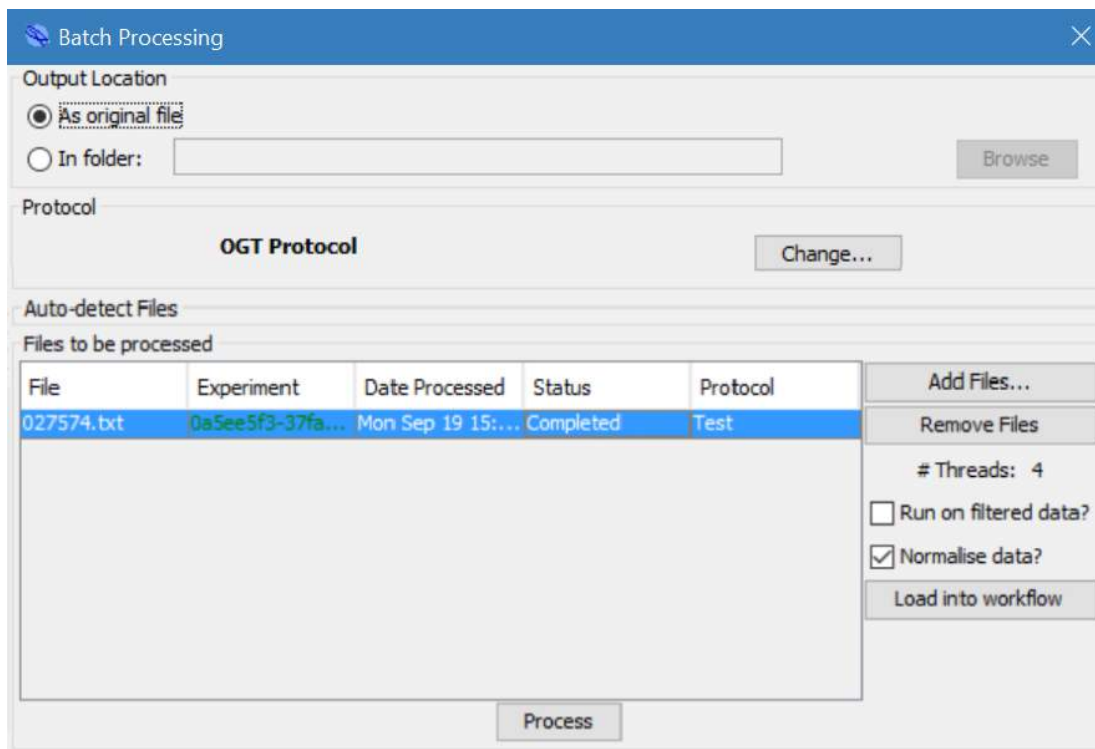

Figure 13: Batch Processing window.
- If batch processing has been carried out, as described in Batch processing, then it is also possible to open the .cgh files from the Batch Processing window (Figure 13). When completed, the files in the **Files to be processed** window will display **Completed** in their **Status** column. To open the associated .cgh file, either double-click on the row in the table or single click on the row (to highlight it blue) and then press the **Load into workflow** button.